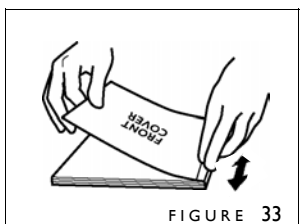

FIGURE 33
7. Now fold the cover tightly all the way over the top of the book block. Rub back and forth on the top near the spine (figure 33) to secure the adhesive beneath the cover.